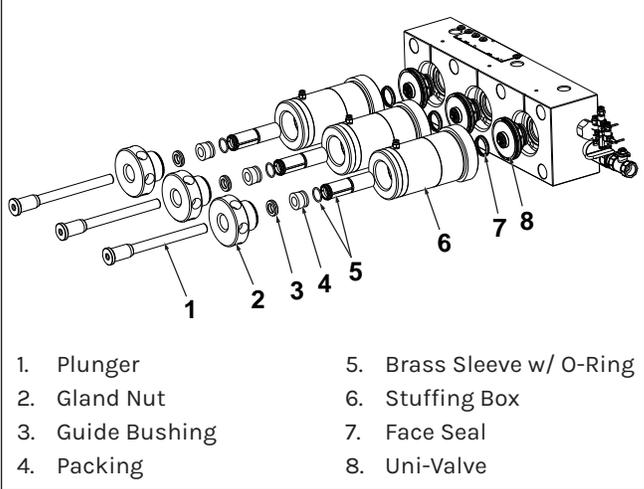
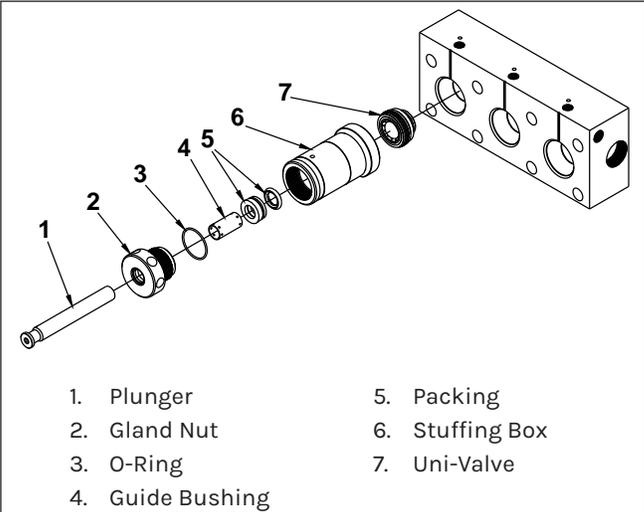

Figure 91: 15K/20K Fluid End (Some Components Not Shown).
Figure 92: 40K Fluid End (Some Components Not Shown).
Note: On 40K fluid ends, the brass sleeve (Figure 91) inside the stuffing box does not need to be removed unless the plunger shows evidence of rubbing on the sleeve.
11. Remove the O-ring (Figure 92) from the gland nut.
3. Place the new packing and guide bushing onto the plunger. Orient the packing as shown in (Figure 91) for 15K/20K and (Figure 92) for 40K.